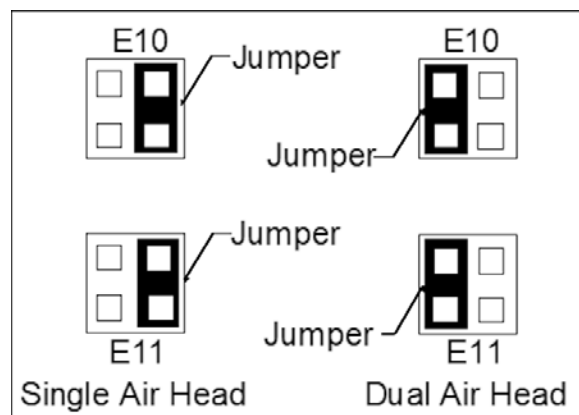

Figure 4-5. Weld Head Configuration Jumper Selection
- There are two jumper headers, E10 and E11, located on the lower right hand area of the control printed circuit board. Re-jumper the headers to the dual air configuration as shown in figure 4-5.